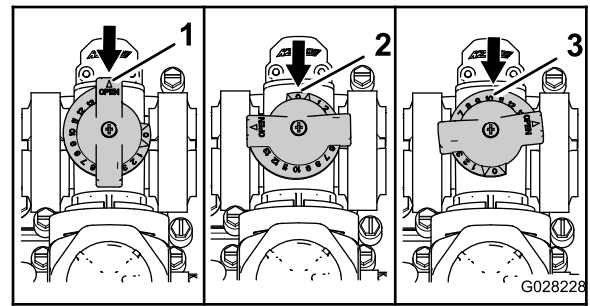

Figure 31
sprayer system) position as shown in C of Figure 31
- The agitation bypass valve is in the full Open position as shown in A of Figure 31.
- The agitation bypass valve is in the Close (0) position as shown in B of Figure 31.